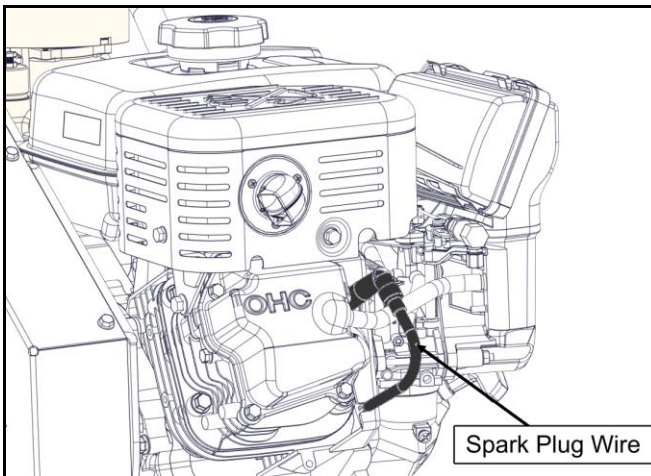

Figure 33 – Spark plug wire
- 2) Disconnect the spark plug wire (Figure 33).